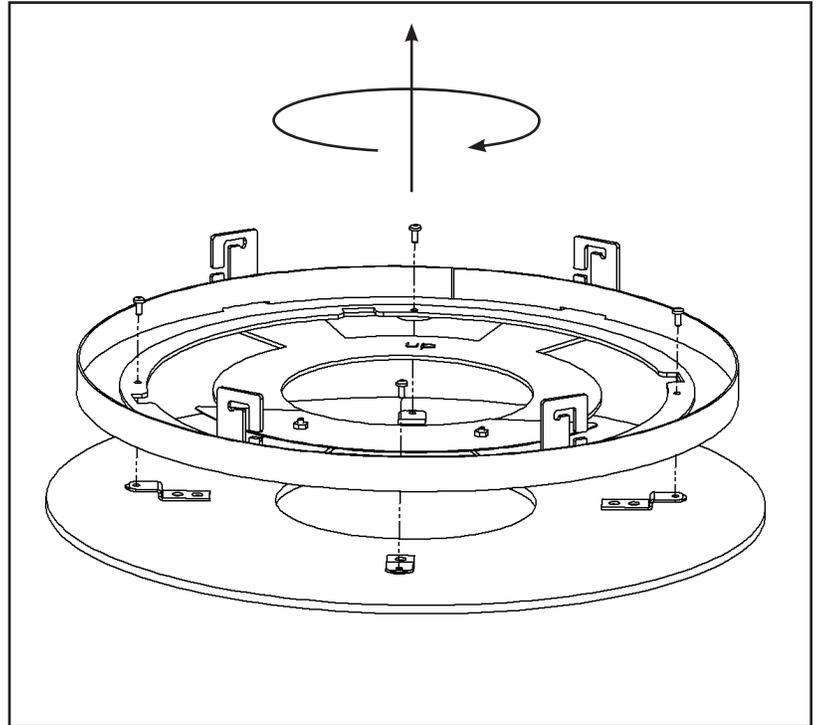

Figure 31: Top Plate Fascia Band Removal
Remove the four (4) T20 screws. Twist the Fascia Band assembly and lift the fascia band up to remove it (see Figure 31).